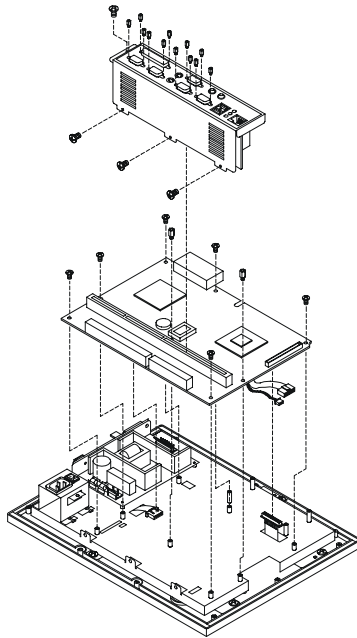

Figure 2.4: *Installing/removing the PCM-5821 & I/O adapter*
3. Install the PCM-5821 in the panel and screw in the eight screws (see Figure 2-4)
4. When the PCM-5821 is mounted in the panel, plug and press the adapter into the socket (see Figure 2-4)